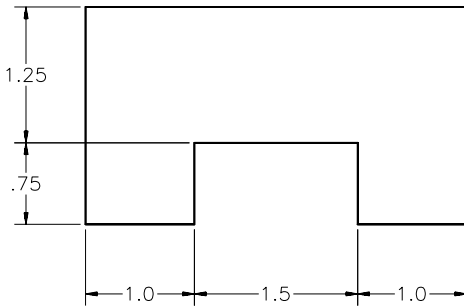
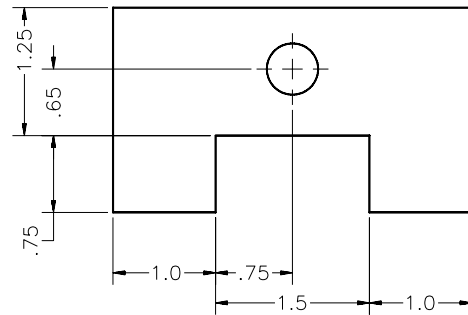

Figure 22-33 Continuous Dimensions
Figure 22-34 Parallel dimensions
8. If you have a series of continuous dimensions, they should be placed in a continuous line (Figure 22-33). Sometimes you may not be able to give the dimensions in a continuous line even after adjusting the dimension variables. In that case, give the dimensions that are parallel (Figure 22-34).